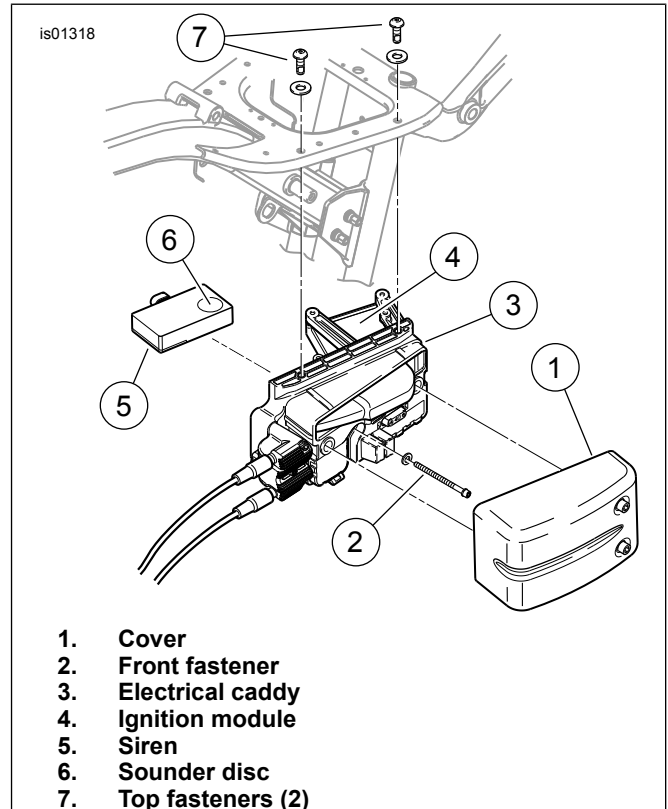

Figure 20. Install Siren in Electrical Caddy (Dyna Models)
1. See Figure 20. Firmly grasp both sides of the electrical caddy cover (1) and pull out to remove.
2. Remove the front electrical caddy screw and washer (2). Remove the two top electrical caddy screws and washers (7).